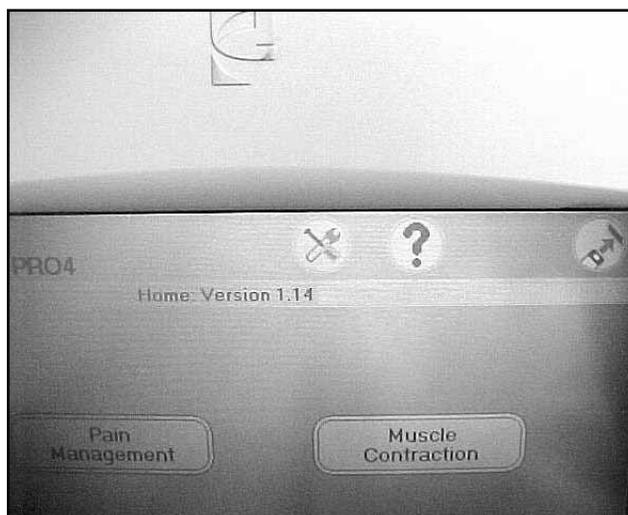

FIGURE 7.2
2. Press the Utilities icon in the top portion of the screen. See Figure 7.2.